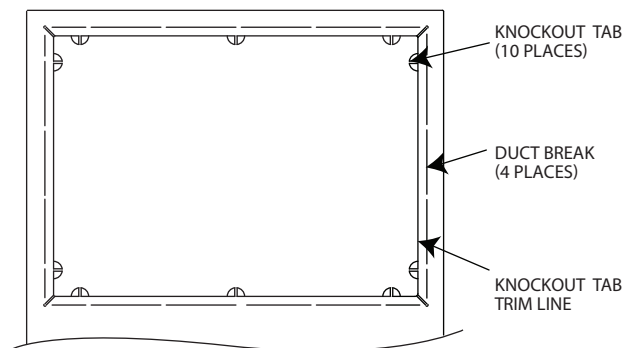

Fig. 24 — 42SU Unit Supply Air Knockout Tab Location
2. Use a sharp retractable knife to trim insulation using center knockout slot/trim line as pattern (see Fig. 24).
3. Use a sharp standard needle nose pliers and grab knockout tab (see Fig. 24).
8. Use duct pliers (hand seamers) to fold duct flange out of the unit 90 degrees for each side of the supply air opening along duct break (see Fig. 24). The 90-degree flanges